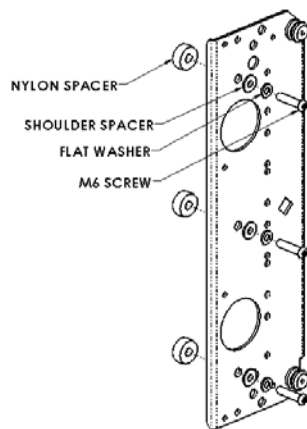
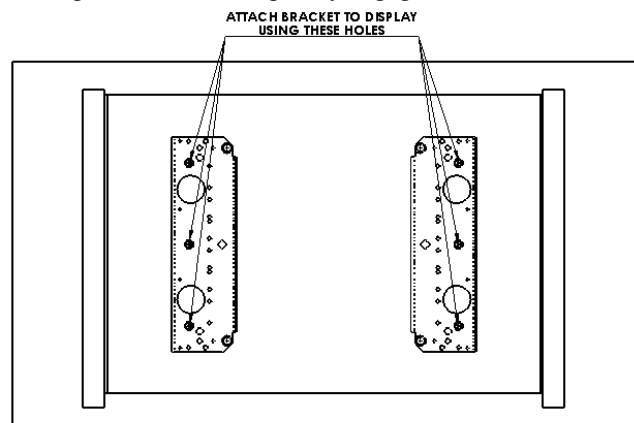

Figure 4
Figure 5
2. Place Nylon spacers on mounting holes and align hole pattern on brackets with pattern on back of display (see Figure 4 and Figure 5).
3. Attach bracket using the M6 screws using the shoulder washers and flat washers (see Figure 4).